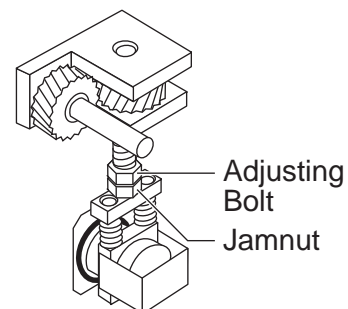

Figure 4-4: Adjusting the Nip
4. Loosen the jamnut on the nip adjusting bolt on each side of the laminator as shown in Figure 4-4.